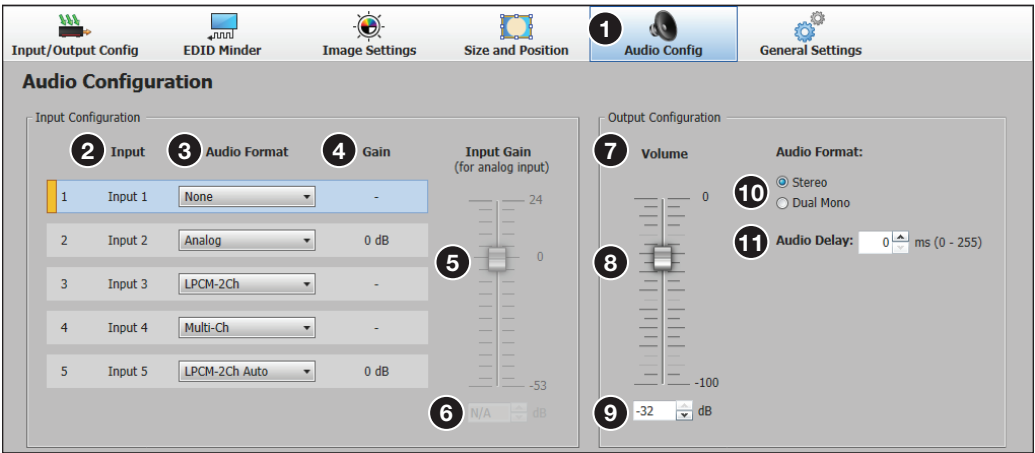

Figure 62. Audio Configuration Page
Click the **Audio Config** icon (see figure 62, ❶) on the global navigation bar to open the Audio Configuration page.
The **Input Gain** fader (see figure 62, 5 on the previous page) can be applied to analog inputs. It has a gain range of -53 dB to +24 dB. Adjustments are applied in 0.1 dB increments. The default setting is 0.0 dB. The current Gain level (4) for each input is displayed to the right of the corresponding **Audio Format** drop-down menu.